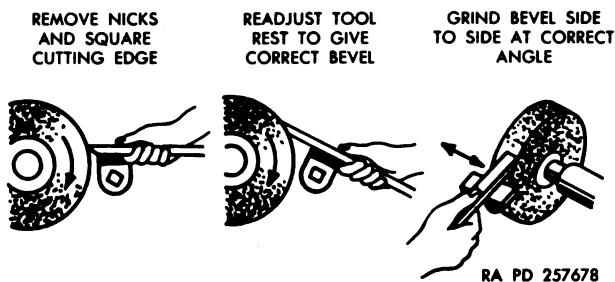

Figure 208. Grinding a woodworker's chisel.
- (a) Square the cutting edge and remove nicks. Adjust the grinder tool rest so that when the chisel is held upon it, the edge will be ground at right angles to the length of the chisel (fig. 208).